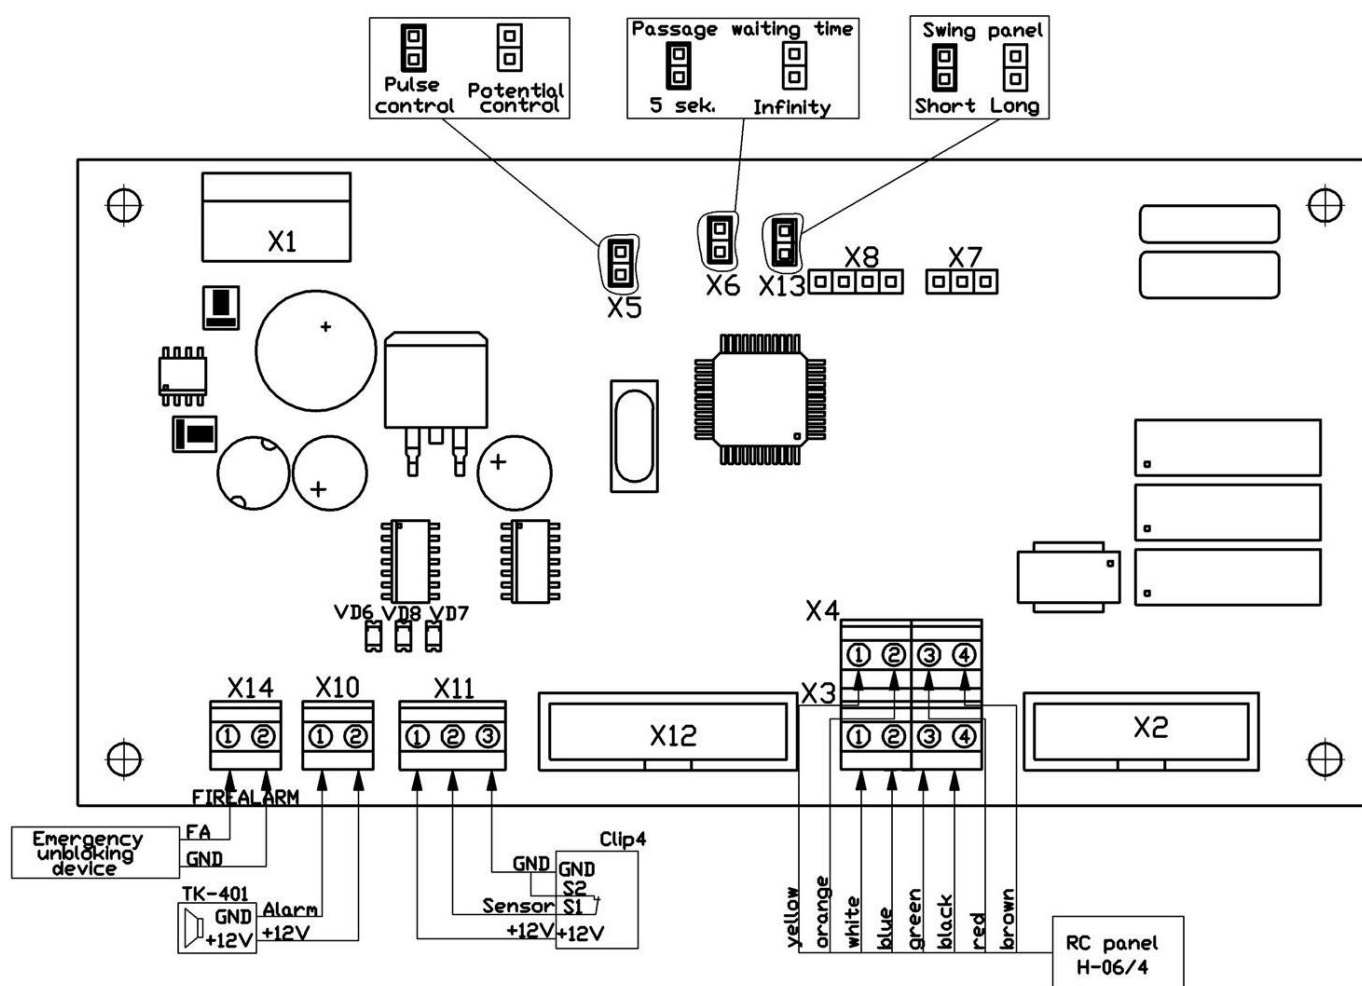
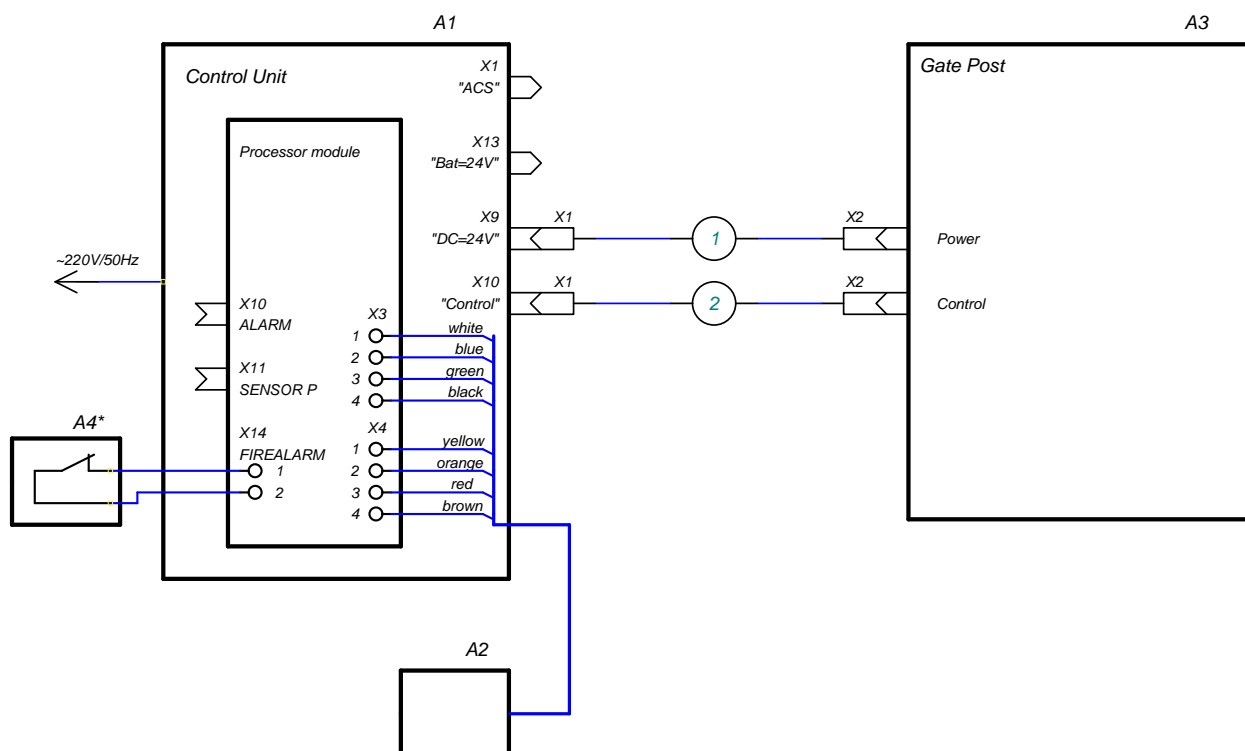

Figure 1A. Processor module of the CU
Figure 1B. WMD-05S connection layout
- disconnect the power cable (13) from the mains;
- change the wires of the remote control panel cable (12) on the connector blocks X3, X4 of the CU processor module (Fig. 1A of Appendix A and Fig. 1B of Appendix B) in the following way: the white wire with the green one and the yellow wire with the red one, i.e. connect the wires as follows:
The CU contains a processor module (shown in Fig. 1A) that performs the wicket gate control.
Passage waiting time, either 5 seconds or infinity, can be set by means of a jumper at the X6 connector. Locations of the jumper for both variants of passage waiting time are shown in Fig. 1A. At delivery the jumper is installed.
When operated from an ACS the pulse and potential control modes are switched over by jumpers at X5 connector. Positions of the jumpers of the X5 connector are shown in Fig. 1A. At delivery the jumper is installed.